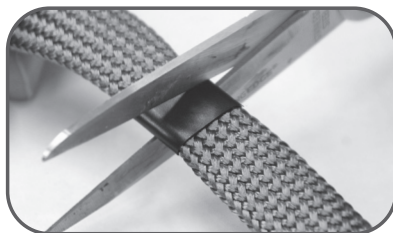

FIGURE 2
- STEP 3:** Using scissors cut through electrical tape and material (Fig 2)